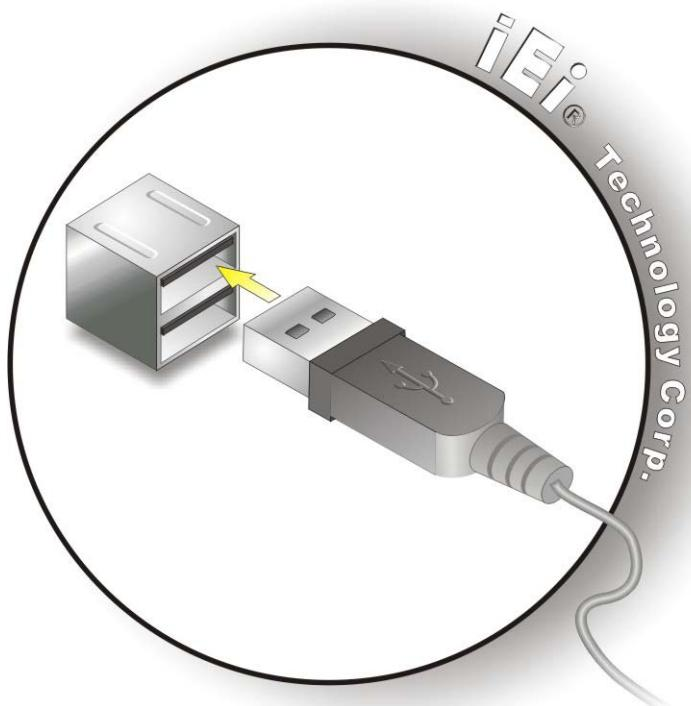

Figure 4-9: USB Connector
Step 2: Insert a USB Series "A" plug. Insert the USB Series "A" plug of a device into the USB Series "A" receptacle on the external peripheral interface. See **Figure 4-9.**